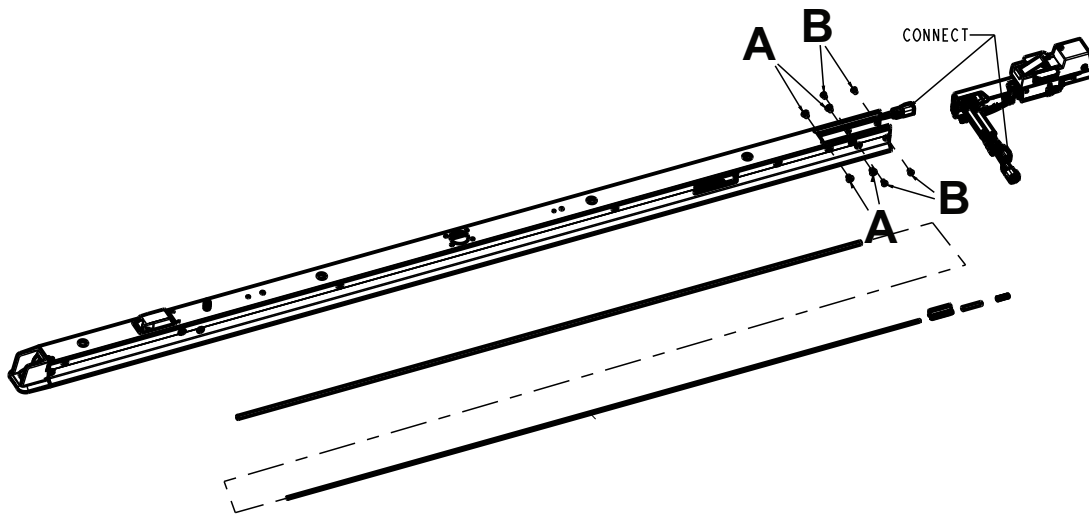

Figure 48 – Remove the anchor pawl assembly from the anchor
5. Using a 5/32" hex wrench, remove the four screws (A) (Figure 48). Save the screws.
6. Using two 1/8" hex wrenches, remove the four flat head cap screws (B) that secure the anchor pawl assembly to the anchor. Save the screws.